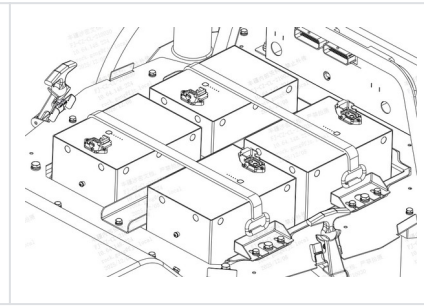

Figure 5
2. After removing the strap, the battery can be installed or replaced quickly (pay attention to the direction of the battery harness socket, as shown in Figure 5).